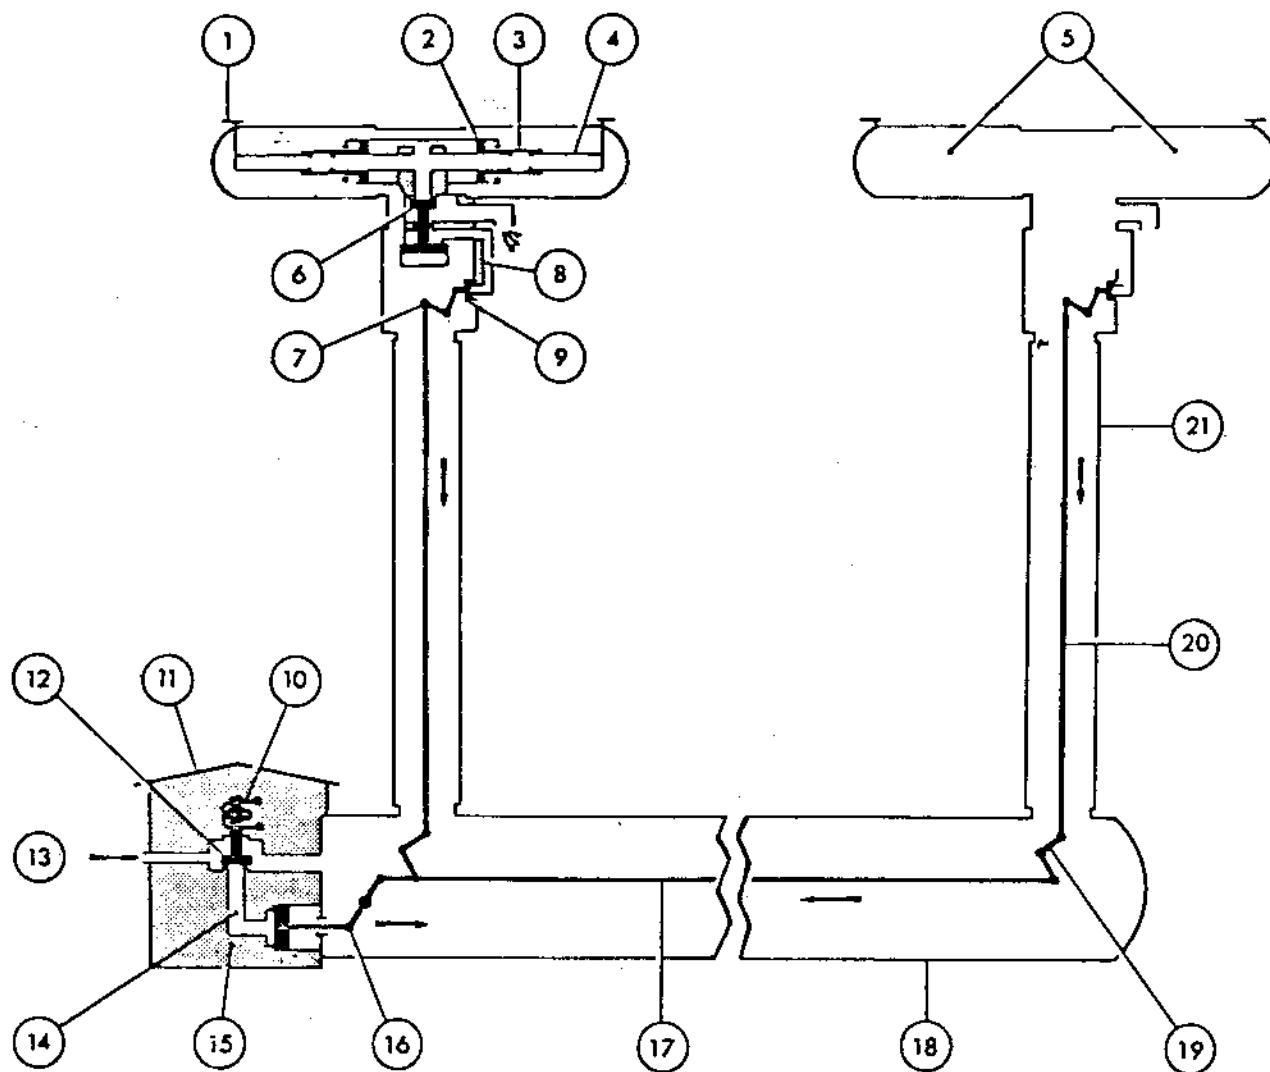

Figure 1: Air Blast Circuit Breaker - Fully Pressurized Type
Refer to Figure 1. The main chambers (5) are permanently pressurized because they are connected directly to the air tank (18) via the insulating support column. Piston (2) drives the moving contacts (3). Normally, the pressure on the two sides of the piston (2) is the same. Piston (2) is actuated by creating a difference of pressure, between its two faces.